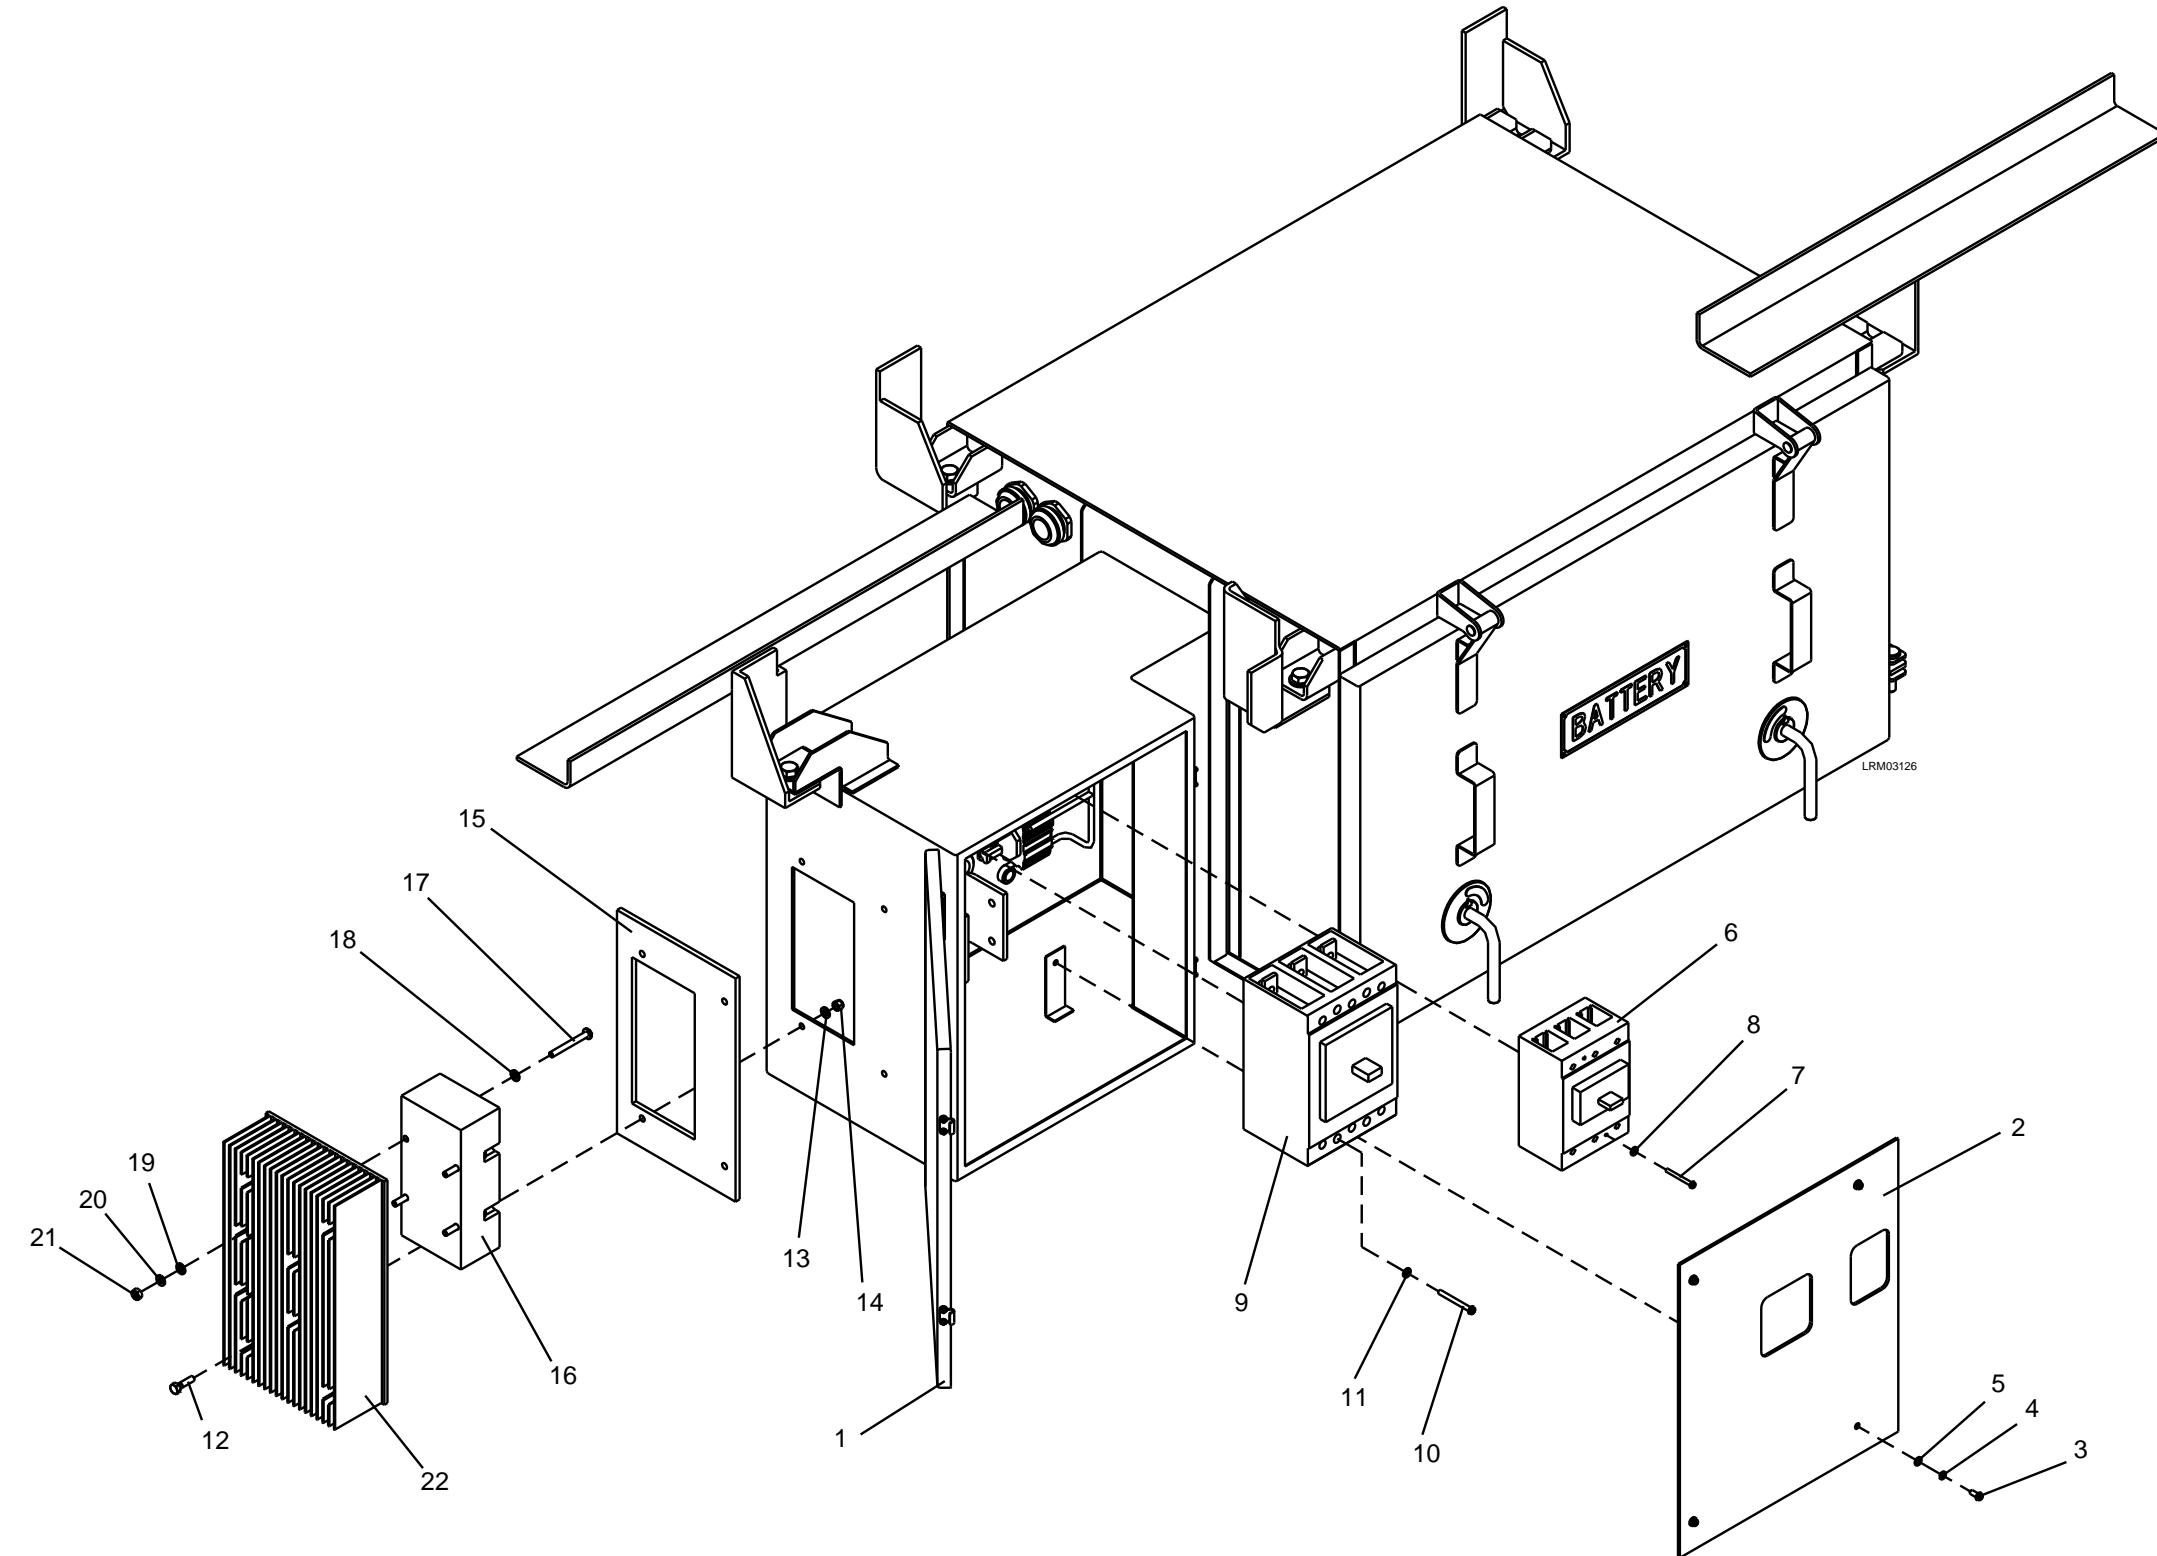

Figure 7-112: Battery Circuit Breaker Box
1. Open the door of the Battery Circuit Breaker Box (1).
3. Remove the four M5 x 12 screws (3), M5 plain washers (4), and M5 lock washers (5). See Figure 7-112.
4. Remove the cover (2).
5. Disconnect the M8 electrical connections to the 150A circuit breaker (6).
6. Remove the two M4 screws (7), and M4 plain washers (8).
7. Carefully remove the 150A circuit breaker (6).
8. Disconnect the M6 and M10 electrical connections from the 400A circuit breaker (9).
9. Remove the four M5 screws (10), and M5 plain washer (11).
10. Carefully remove the 400A circuit breaker (9).
11. Disconnect the 3/8-16 electrical connections to the brick diode (16).
12. Remove the four 1/4" ESNA nuts (14), 1/4" plain washers (13), and 1/4" x 1.00" bolts (12).